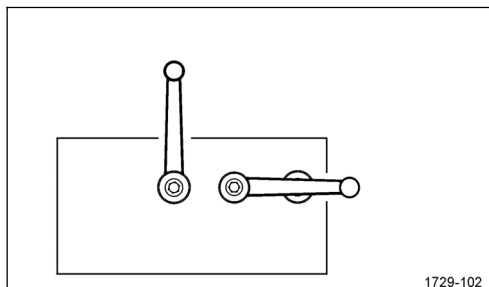

Figure 96
- ☐ (Hydraulic block, left machine side) the right ball valve of the hydraulic valve must point according to Figure 96 to the tail end of the machine. The left ball valve of the hydraulic block must point to the machine.
- ☐ (Left machine side, Figure 96:) the left ball valve of the hydraulic block must point to the tail end of the machine. The left ball valve of the hydraulic block must point to the machine.